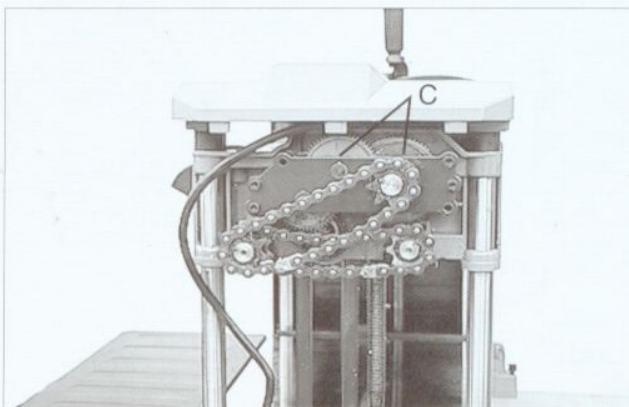

Fig.32
3.Place grease on the teeth of gears (C) Fig.32,and replace the side cover.